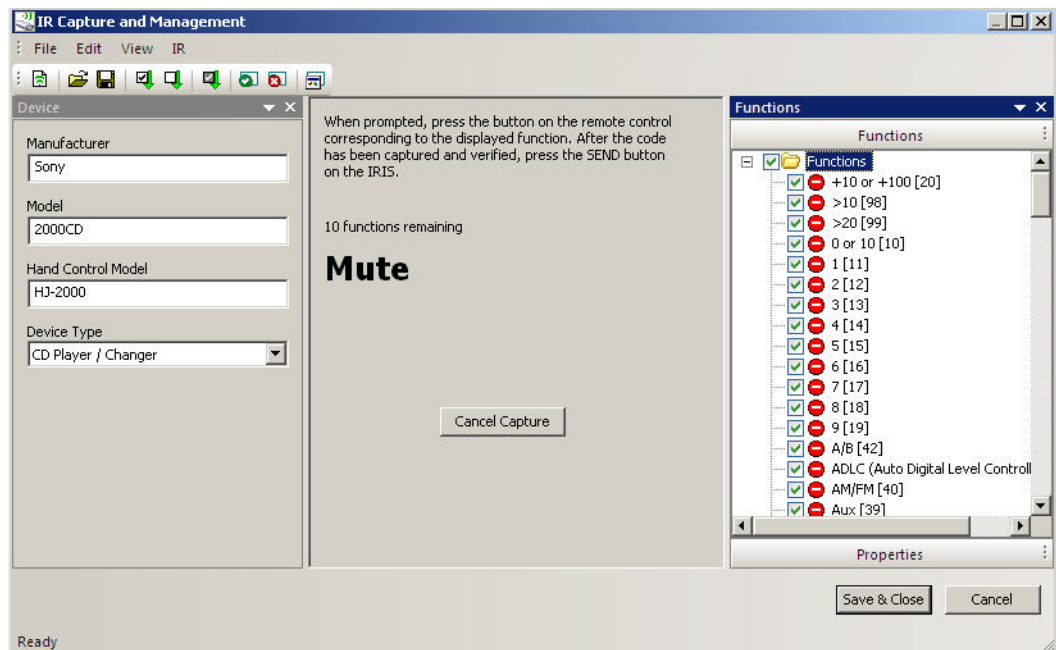

FIG. 39 IR Capture and Management dialog
- **IR Devices** - In order for IR-controlled devices to be available for inclusion in your projects, each device must be represented in the Device Database with both an IR Library (.IRL) and an IR Metadata (.XMD) file. The options in the *IR Capture and Management* dialog allow you to capture and manage IR control codes (FIG. 39).